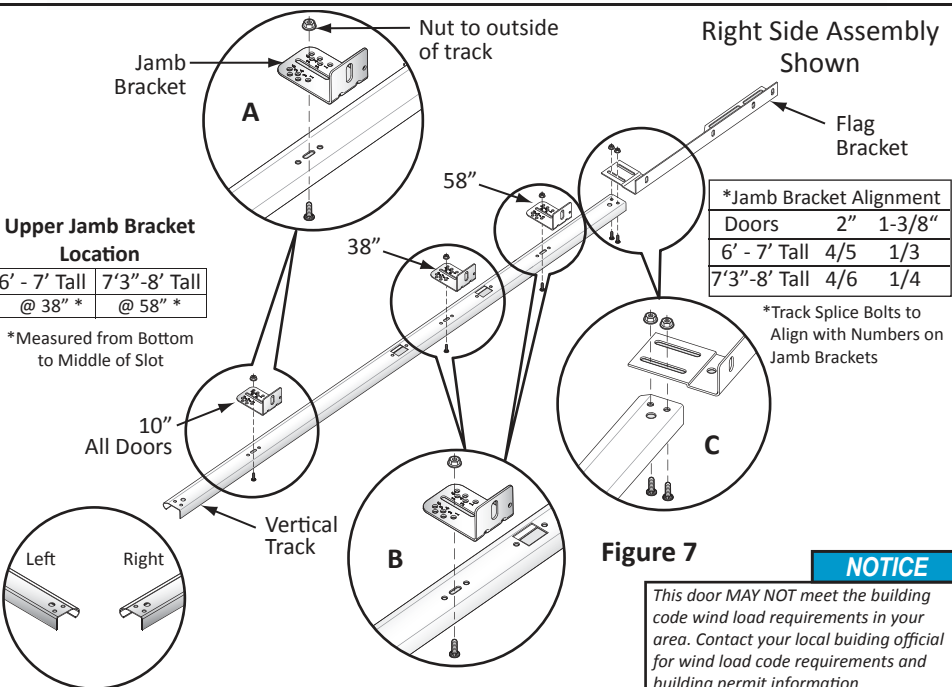

Figure 7
Align the lower Universal Jamb Bracket with the flat side of the track as shown in Figure 7A. Attach with (1) 1/4" x 5/8" Track Splice Bolt and (1) 1/4"-20 Hex Nut, through the oval holes. Hand tighten. Repeat this step for the upper Jamb Bracket. See the Jamb Bracket Location chart for placement (Figure 7).